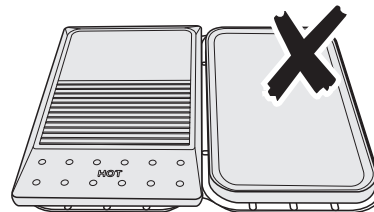

Fig. 2.14
**⚠ NEVER fit two griddle plates side by side (Fig. 2.14).**